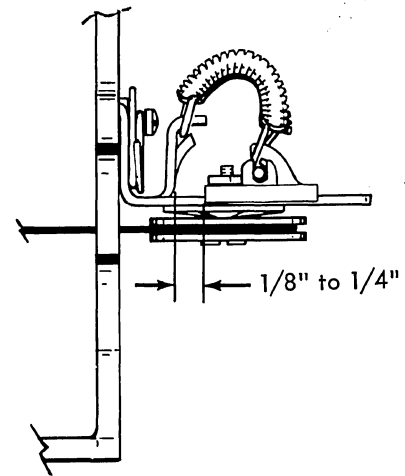

FIGURE 110C. Cord Tension
3. Cord Tension - With the cords properly threaded (Figs. 110 A & B), adjust the carrier return cord drum so that the pulley pivot screw nut clears the pulley bracket by $1/8''$ to $1/4''$ (Fig. 110C).